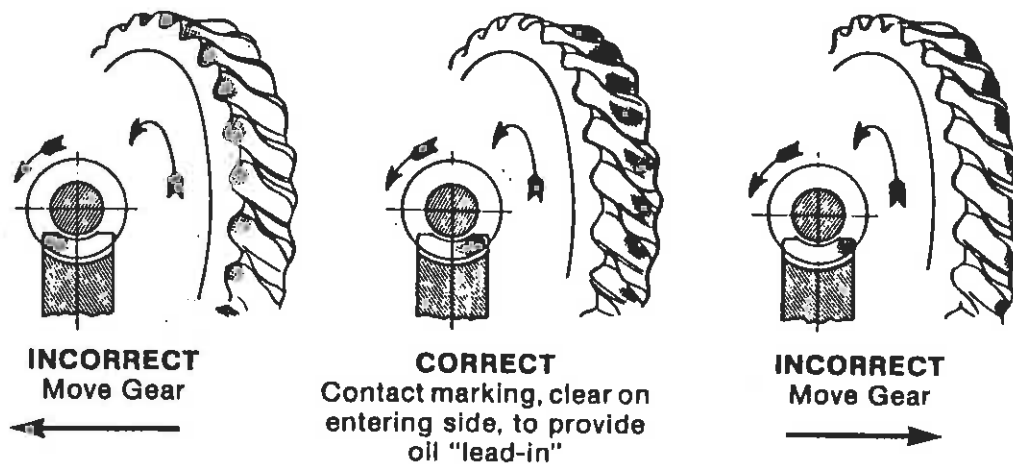

Figure 6 Gear Contact Pattern
- E. Use a rag to apply hand pressure to the output shaft and rotate the high speed shaft until output key is down. Return output shaft to original position by reversing rotation. Remove output shaft and seal cage to inspect contact. Compare with Figure 6. If contact is not correct move assembly in the direction shown in Figure 6 by adding shims to the side to which the arrow points after removing them from the opposite side. Repeat steps D and E until contact pattern is correct.